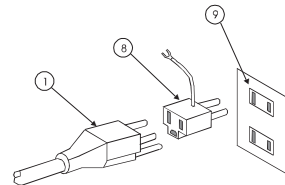

Figure 3
⑦. Each SurgeArrest is equipped with a 15 Amp **circuit breaker** to protect against electrical power overload. Button will pop up in the event of an overload. If this happens, unplug at least one piece of equipment, and reset button.
⑧. A 3 prong to 2 prong **Plug Adaptor** is provided for your convenience. See figure 3.
1. Turn OFF Power Switch ②. The switch lever marked with the "O" should be down.
2. Connect the Power Cord ① into a 100VAC receptacle. It is highly recommended that a grounded receptacle be used. If your receptacle is ungrounded (accepts only plugs with two blades), attach the 3 to 2 Plug Adapter that is supplied with the unit. The Adapter Plug has a green wire that is used to connect to earth ground where permitted or accessible. Please note that ungrounded surge protectors do not provide effective surge protection between line to ground. Check local electrical laws governing grounding practices. See Figure 3 below.